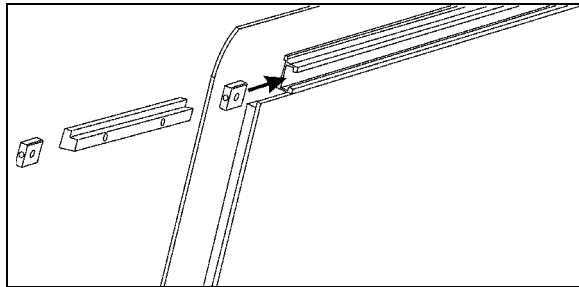
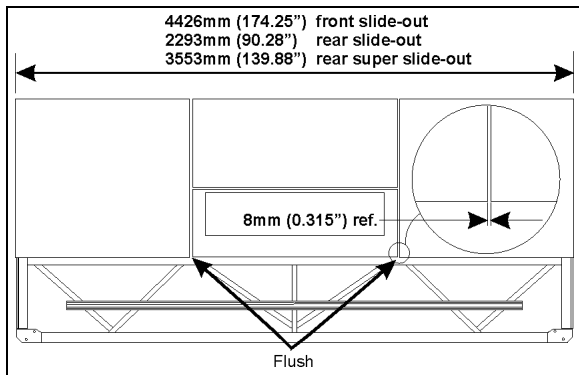

FIGURE 63 : FACE WINDOW INSTALLATION - ANCHORING BLOCKS
FIGURE 64 : FACE WINDOW INSTALLATION
9. **HALF-WINDOW ONLY:** insert anchoring blocks in window extrusion (see FIGURE 63);
2. Insert anchoring blocks in window extrusion (see FIGURE 63) and install window with the lower edge flush with the sliding or awning window (see FIGURE 64);
3. Leave a gap between the face window and the sliding/awning window according to the slide-out overall length (see FIGURE 64);